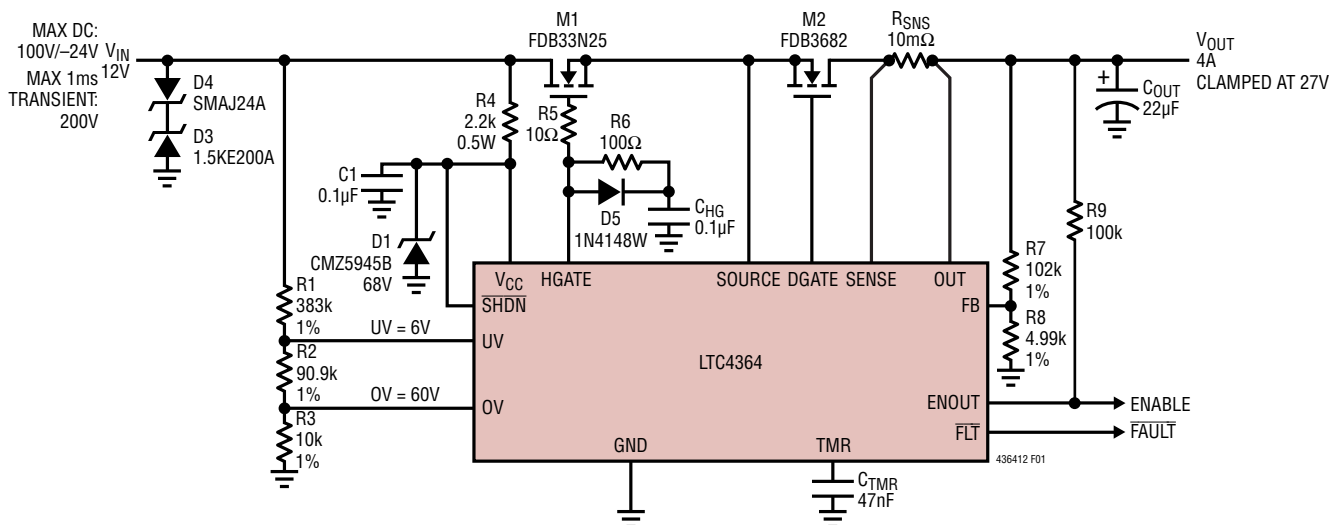
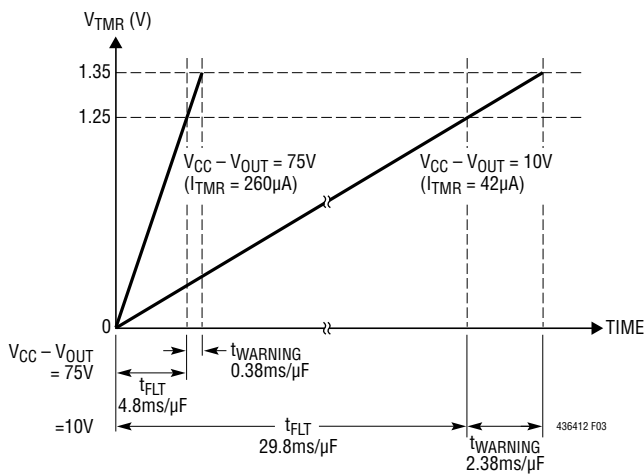

Figure 1. 4A, 12V Overvoltage Output Regulator with Reverse Current Protection
**Figure 2. External UV and OV Configuration Blocks Start-Up Into an Overvoltage Condition**
**$\Delta V_{HGATE}$  vs  $V_{IN}$  in Figure 1**
**$\Delta V_{DGATE}$  vs  $V_{IN}$  in Figure 1**
The LTC4364 drives an N-channel MOSFET (M1) at the HGATE pin to limit the voltage and current to the load circuitry during supply transients or overcurrent events. The selection of M1 is critical for this application. It must stay on and provide a low impedance path from the input supply to the load during normal operation and then dissipate power during overvoltage or overcurrent conditions. The LTC4364 also drives a second N-channel MOSFET (M2) at the DGATE pin as an ideal diode to protect the load from damage during reverse polarity input conditions, and to block reverse current flow in the event the input collapses. A typical application circuit using the LTC4364 to regulate the output at 27V during input surges with reverse input protection is shown in Figure 1.
Input overvoltage is detected with the OV pin and an external resistive divider connected to the input (Figure 1). At power-up, if the OV pin voltage is higher than its 1.25V threshold before the 100 $\mu\text{s}$  internal power-on-reset expires, or before the input undervoltage condition is cleared at the UV pin, the HGATE pin will be held low until the OV pin voltage drops below its threshold. To prevent start-up in the event the board is hot swapped into an overvoltage supply, separate resistive dividers with filtering capacitors can be used for the OV and UV pins (Figure 2). The RC constants should be skewed so that  $\tau_{UV}/\tau_{OV} > 50$ . In Figure 2, if the board is plugged into a supply that is higher than 60V, the LTC4364 will not turn on the pass devices until the supply voltage drops below 60V.
The LTC4364 detects input undervoltage conditions such as low battery using the UV pin. When the voltage at the UV pin is below its 1.25V threshold, the HGATE pin pulls low to keep the pass device off. Once the UV pin voltage rises above the UV threshold plus the UV hysteresis (50mV typical), the HGATE pin is allowed to pull up without going through a timer cycle. In Figure 1 and Figure 2, the input UV threshold is set by the resistive dividers to 6V. An undervoltage condition does not produce an output at the  $\overline{\text{FLT}}$  pin.
The LTC4364 drives two N-channel MOSFETs, M1 and M2, as the pass devices to conduct the load current (Figure 1). The important features are on-resistance,  $R_{\text{DS(ON)}}$ , the maximum drain-source voltage,  $V_{(\text{BR})\text{DSS}}$ , the threshold voltage, and the safe operating area, SOA (for M1).
The added gate capacitor slows down the turn-off time during fault conditions and allows higher peak currents to build up during an output short event. If this is a concern, an extra resistor, R6, in series with  $C_{HG}$  can restore the turn-off time. A diode, D5, should be placed across R6 with the cathode connected to  $C_{HG}$  as shown in Figure 1. In a fast transient input step, D5 provides a bypass path to  $C_{HG}$  for the benefit of holding HGATE low and preventing self enhancement.
The LTC4364 is tested to operate to 80V and guaranteed to be safe from damage between 100V and –40V. Voltage transients above 100V or below –40V may cause permanent damage. During a short-circuit condition, the large change in current flowing through power supply traces coupled with parasitic inductances from associated wiring can cause destructive voltage transients in both positive and negative directions at the  $V_{CC}$ , SOURCE, and OUT pins. To reduce the voltage transients, minimize the power trace parasitic inductance by using short, wide traces. A small RC filter (R4 and C1 in Figure 1) at the  $V_{CC}$  pin filters high voltage spikes of short pulse width.
Another way to limit supply transients above 100V at the  $V_{CC}$  pin is to use a Zener diode and a resistor, D1 and R4, as shown in Figure 1. D1 clamps voltage spikes at the  $V_{CC}$  pin while R4 limits the current through D1 to a safe level during the surge. In the negative direction, D1 along with R4 clamps the  $V_{CC}$  pin near GND. The inclusion of R4 in series with the  $V_{CC}$  pin increases the minimum required supply voltage due to the extra voltage drop across the resistor, which is determined by the supply current of the LTC4364 and the leakage current of D1. 2.2k adds about 1V to the minimum operating voltage.
For sustained, elevated supply voltages, the power dissipation of R4 in Figure 1 becomes unacceptable. This can be resolved by using an external depletion mode N-channel MOSFET to replace R4 (M1 in Figure 7a) or using an external NPN transistor (Q1 in Figure 7b) as a buffer. To protect Q1 against supply reversal, block the collector of Q1 with a series diode or tie it to the cathode of D3 and D4 in Figure 1.
Transient suppressor D3 in Figure 1 clamps the input voltage to 200V for voltage transients higher than 200V, to prevent breakdown of M1. It also blocks forward conduction in D4. D4 limits the SOURCE pin voltage to 24V below GND when the input goes negative.  $C_{OUT}$  helps absorb the inductive energy at the output upon a sudden input short, protecting the OUT and SENSE pins.